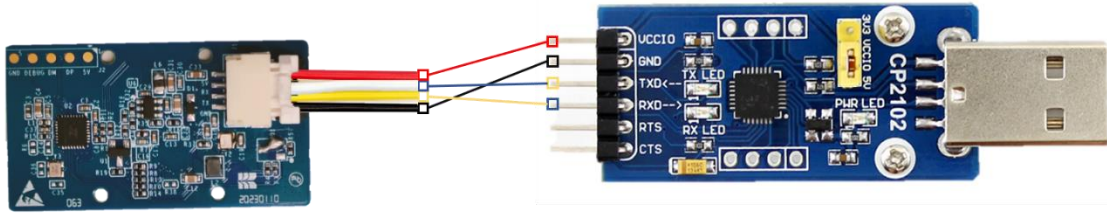

Figure 4-3 Example of connecting the CS203 hardware to the USB serial port tool
- c) Connect the CS203 module to a USB serial port tool using Dupont threads, as shown in Figure 4-3;